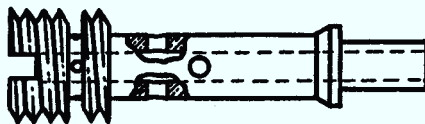

Fig. CL48—When original main fuel nozzle is removed from "LM" series carburetor, it must be discarded and service type nozzle shown must be installed.
cleaning carburetor, do not remove the main fuel nozzle (13) unless necessary. If nozzle is removed, it must be discarded and a service type nozzle (See Fig. CL48) installed.